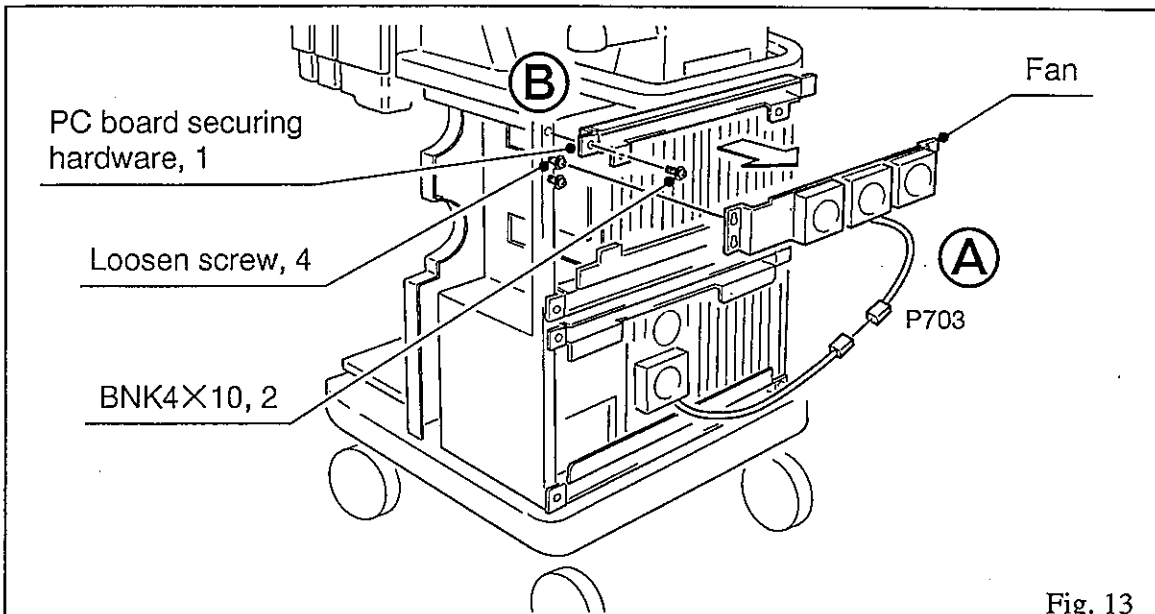

Fig. 13
(A in fig. 13)
(14) Unfasten 2 screws and remove PC board securing hardware. (B in fig. 13)